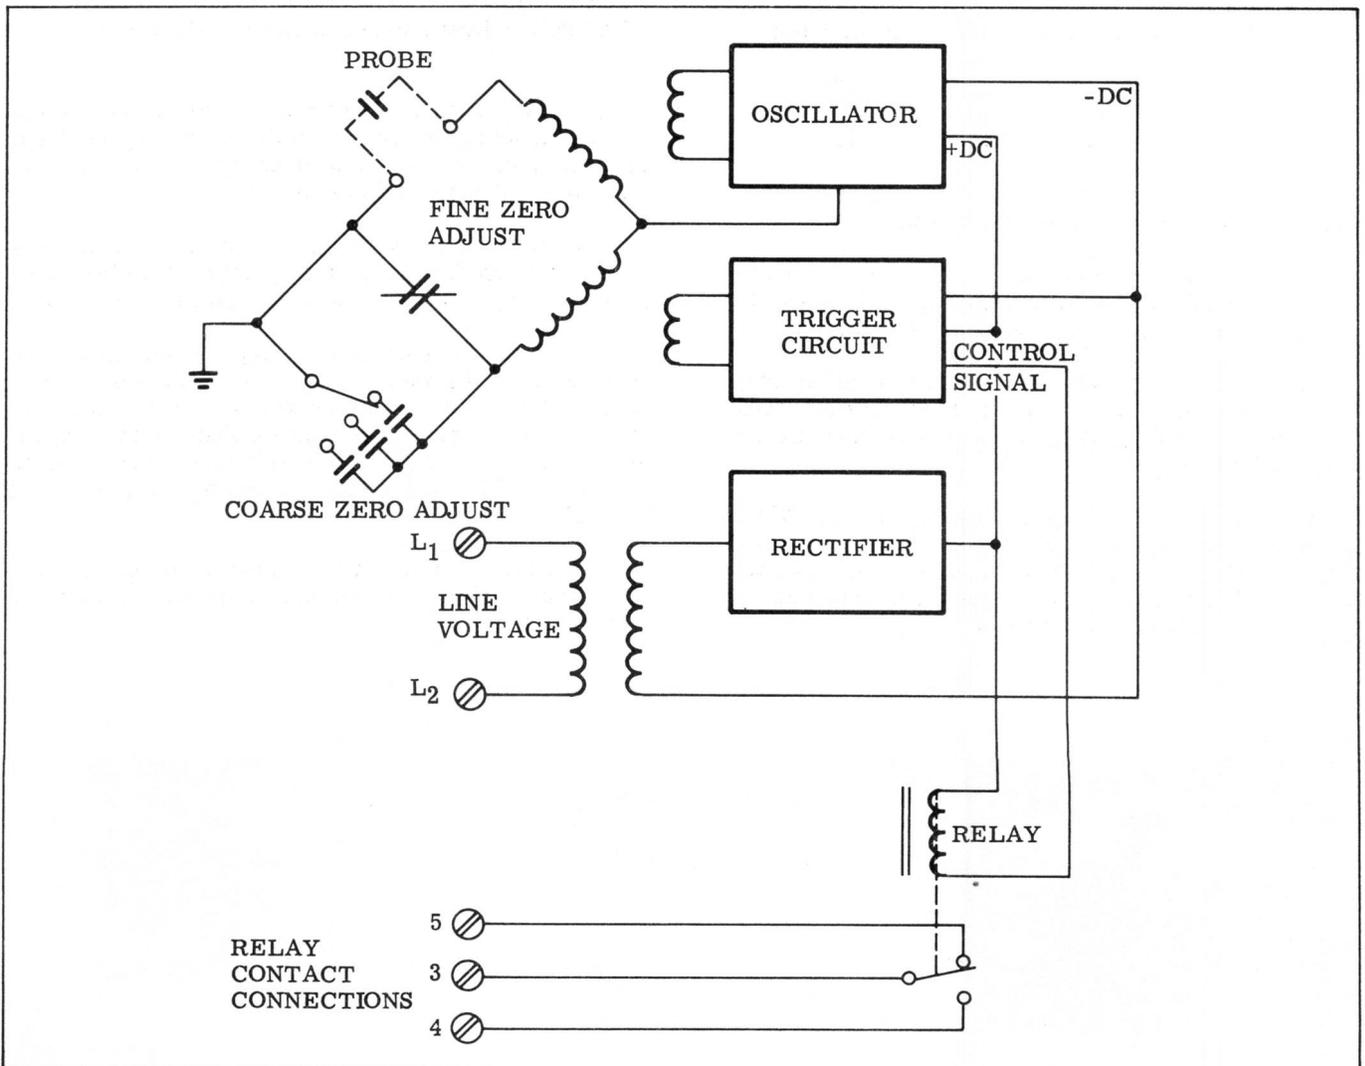

Figure 3-58. Level Control Block Diagram
(1) Detector Unit. The detector unit consists of a transistorized oscillator (Figure 3-58) operating at a frequency of approximately 2 MC coupled to an LC bridge circuit that varies the level of oscillation as a function of the bridge unbalance. One leg of the bridge circuit consists of the zero or standing capacitance adjustment provisions and the other leg of the bridge consists of the detecting probe capacitance. As the bridge becomes unbalanced due to changing capacitance at the detecting probe, a portion of the bridge output is rectified and fed to an electronic trigger circuit. The electronic trigger circuit receives the proportional input signal from the bridge circuit and converts it to a high level on-off control current for relay operation.
(2) Detecting Probe. The level control detecting probe senses the change in product or material level in the hopper as a function of the capacitance change immediately surrounding the probe and is electrically connected to the detector unit.